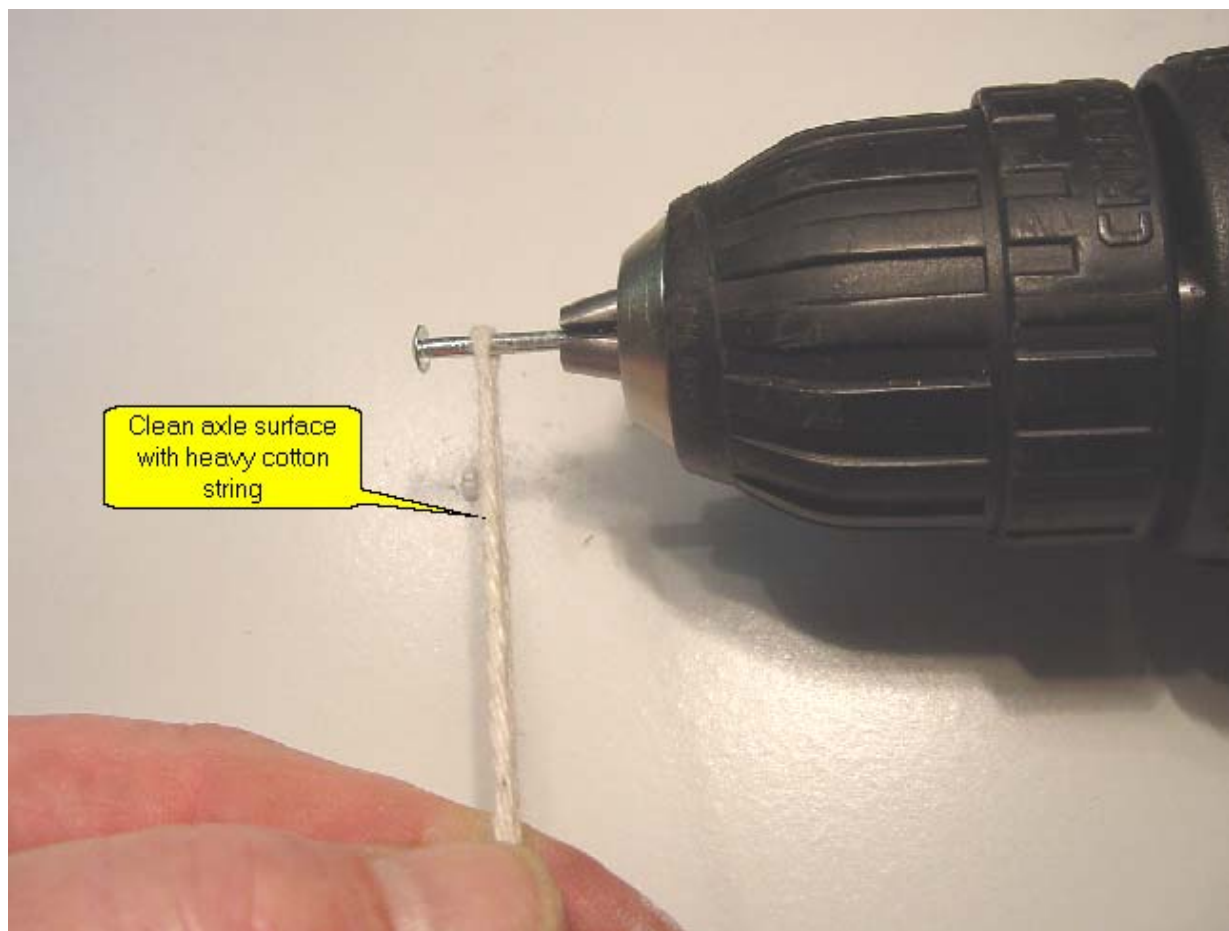

Figure 8 - *Applying cotton twine to clean residual alumina off axle surface.*
- Here in **Fig. 8** is shown the dark material that is composed of fine microscopic metal particles from the axle shaft surface. As indicated in the photograph, if too much metal is polished off, and too much pressure is applied, the metal particles could become embedded in the surface itself, and thus the axle surface itself will start to turn dark. This should be avoided as it will not provide a smooth continuous metal surface for forming a good monomolecular (very thin) film of graphite.
- The twine, seen in **Fig. 8**, is provided in the Grab Bag. If you need more, it is usually stocked at a store like Wal-Mart.